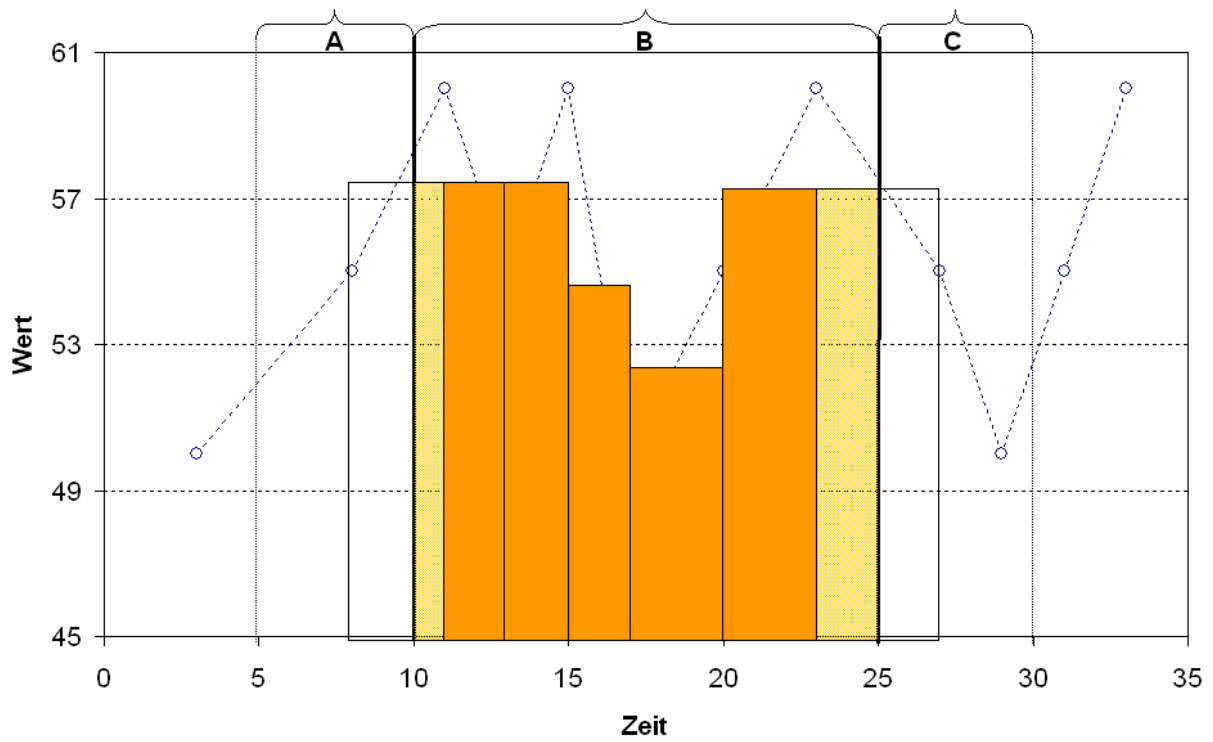

Fig. 23: Data aggregation → Weighted mean middle
j) *Weighted mean middle*: time-weighted average in the interval (B). The values considered for time weighting are the average of two adjacent points. Depending on the setting the overlapping range (A and C) is taken into account for determining the weighted average (Fig. 23).